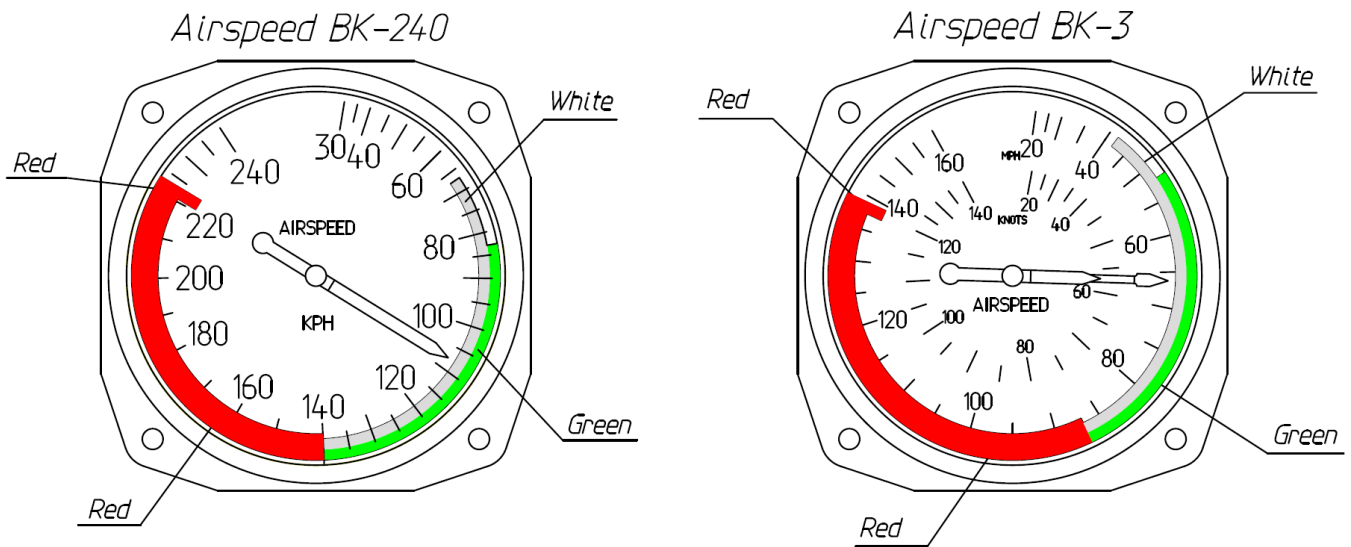

Fig. 1
2.1) Before replacing the windshield, put a temporary red speed limit sector $V_{ne} = 140 \text{ km/h}$ (87 mph) to the airspeed indicator (see Fig. 1) and mark this temporary speed limitation in the relevant section of the POH (in any convenient way, for example, with a red pencil).